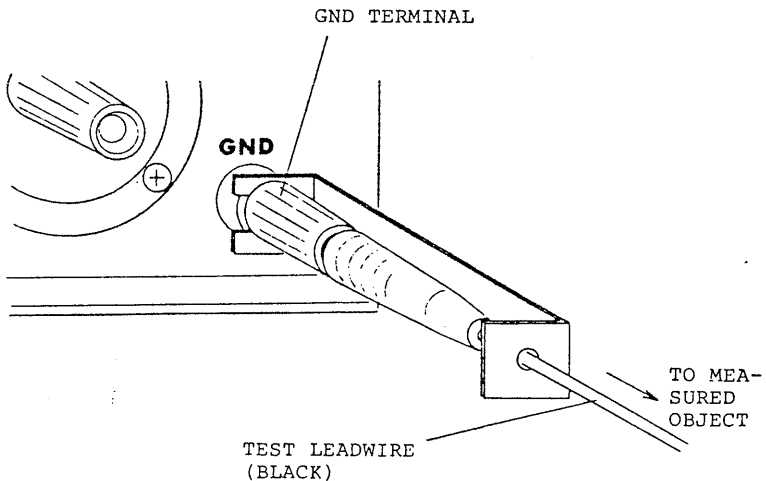

Figure 3.3
- (2) The connection method of the test leadwire of the GND side is shown in Figure 3.3. Be sure to check for that this leadwire is not open, each time the instrument is used. Also be sure to connect the GND terminal to the ground line of the measured object. If it is not securely connected, the measured object becomes a floated state and a dangerously high voltage may be built up in the measured object.
- (3) Be sure to wear rubber gloves whenever operating this instrument in order to guard against electric shock hazards. If gloves are unavailable, contact Kikusui's agent in your area.
- (4) Before turning-on the power switch, make sure that the TEST VOLTAGE dial is in the extremely counterclockwise position ("0" position).
- (5) Except when test is being done, turn the TEST VOLTAGE dial to the extremely counterclockwise position ("0" position). Also, press the RESET (HV OFF) button for the sake of safety. Be sure to turn-off the power switch each time the instrument is not used for a short period of time or when the operator leaves the instrument.
- (6) Never try to connect or disconnect the leadwires to or from the measured object, under the state that the test voltage is being applied. Never touch the tested object or leadwires when the test voltage is being delivered.
(7) Before touching the test leadwires or output terminal, be sure to check the following: